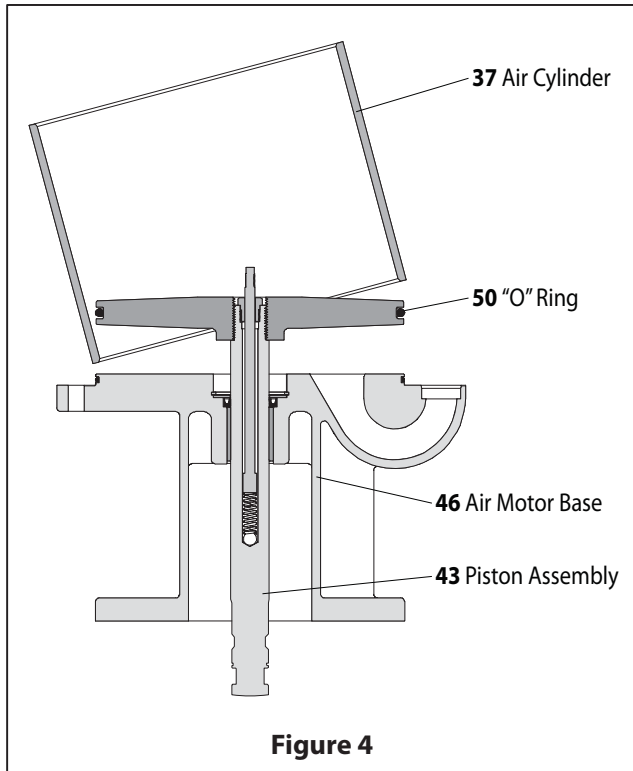

Figure 4
1. Place the (39) valve rod thru the (48) screw.
2. Clean the threads of the (39) valve rod and the (5) extension rod. Apply Loctite 271 to these threads and screw the (5) extension rod to the (39) valve rod and tighten by holding the (39) valve rod below the threads with an adjustable type pliers and using a wrench on the flats of the (5) extension rod. **CAUTION: Do not mar or damage the finish on the (5) extension rod.**
3. Place the (42) ball and (45) spring into the (43) piston assembly.
4. Place the (39) valve rod and (5) extension rod into the (43) piston assembly. Apply Loctite 271 to the threads of the (48) screw and thread the (48) screw into the (43) piston assembly and tighten.
5. Assemble the (50) "O" ring to the groove in the (43) piston assembly.
6. Assemble the (36) "O" ring to the groove in the (46) air motor base assembly.
7. Assemble the (41) "U" cup (lips up), (44) guide washer and (40) retaining ring into the (46) base assembly.
8. Assemble the (43) piston assembly into the (46) base assembly, being careful not to damage the (41) "U" cup.
9. Lubricate the inside diameter of the (37) air cylinder and slide it down over the (43) piston assembly and onto the (46) air motor base assembly (see figure 4).
10. Assemble the (36) "O" ring to the groove in the (22) head plate.
11. Align the notch in the (22) head plate with the port in the (46) air motor base assembly and press the (22) head plate down until it is seated against the (37) air cylinder.
12. Assemble eight (49) cap screws thru the (22) head plate and (46) air motor base assembly.
13. Assemble eight (47) nuts on the (49) cap screws and tighten alternately and evenly.
14. Assemble two (7) "O" rings to the grooves in the (6) cylinder.
15. Assemble the (24) "U" cup into the (6) cylinder, with the lips facing out.
16. Assemble the (6) cylinder over the (5) extension rod and into the (22) head plate. NOTE: Assemble the (6) cylinder with the "U" cup end onto the (5) extension rod first.
17. Assemble the (4) washer over the (5) extension rod and into the (6) cylinder.
18. Clean the threads on the (2) piston assembly. Apply Loctite 271 to the threads and assemble to the (5) extension rod and tighten, using the wrench flats. **CAUTION: Do not mar or damage the surface of either of these parts.**
19. Assemble the (1 and 3) "O" rings to the grooves in the (2) piston assembly.